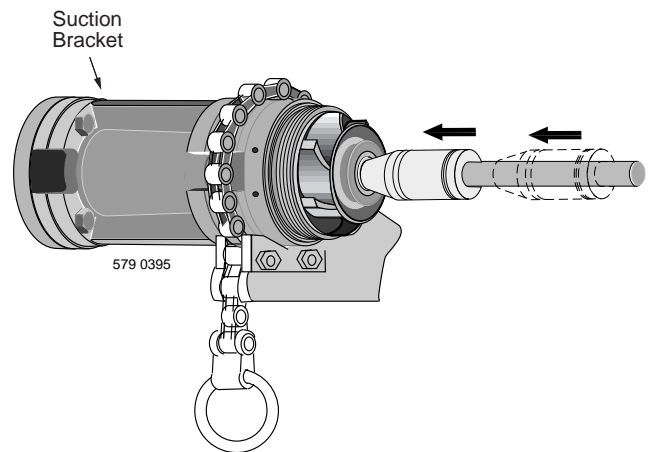

Figure 3: Lock impeller to shaft with collet.
4. Slide 1st stage impeller and collet onto shaft. Lock impeller to shaft with collet (see Figure 3). Use collet driver to seat the collet; two or three solid raps with the collet driver should be enough.